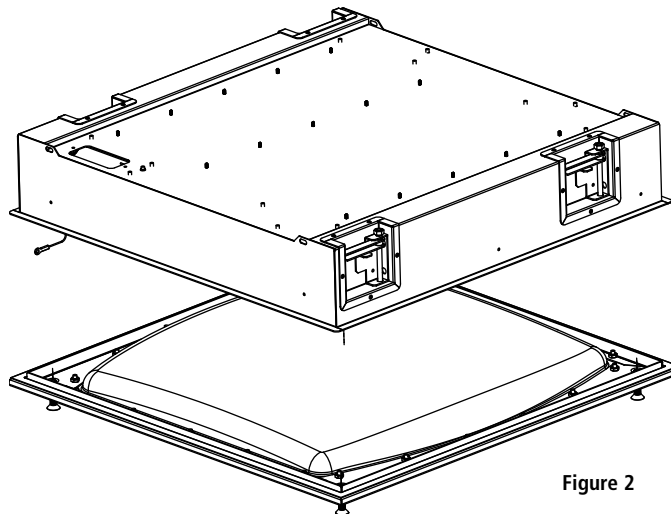

Figure 2
3. Remove door from fixture by loosening four (2×2) or six (2×4) door fasteners using tamperproof T40 Torx bit (TX option) or T40 Torx bit (FF) option. Note that the socket hole on the FF option is recessed (hidden); use care to avoid scratching finish. Use a Phillips screwdriver to remove lanyards holding door to housing. See Figure 2.